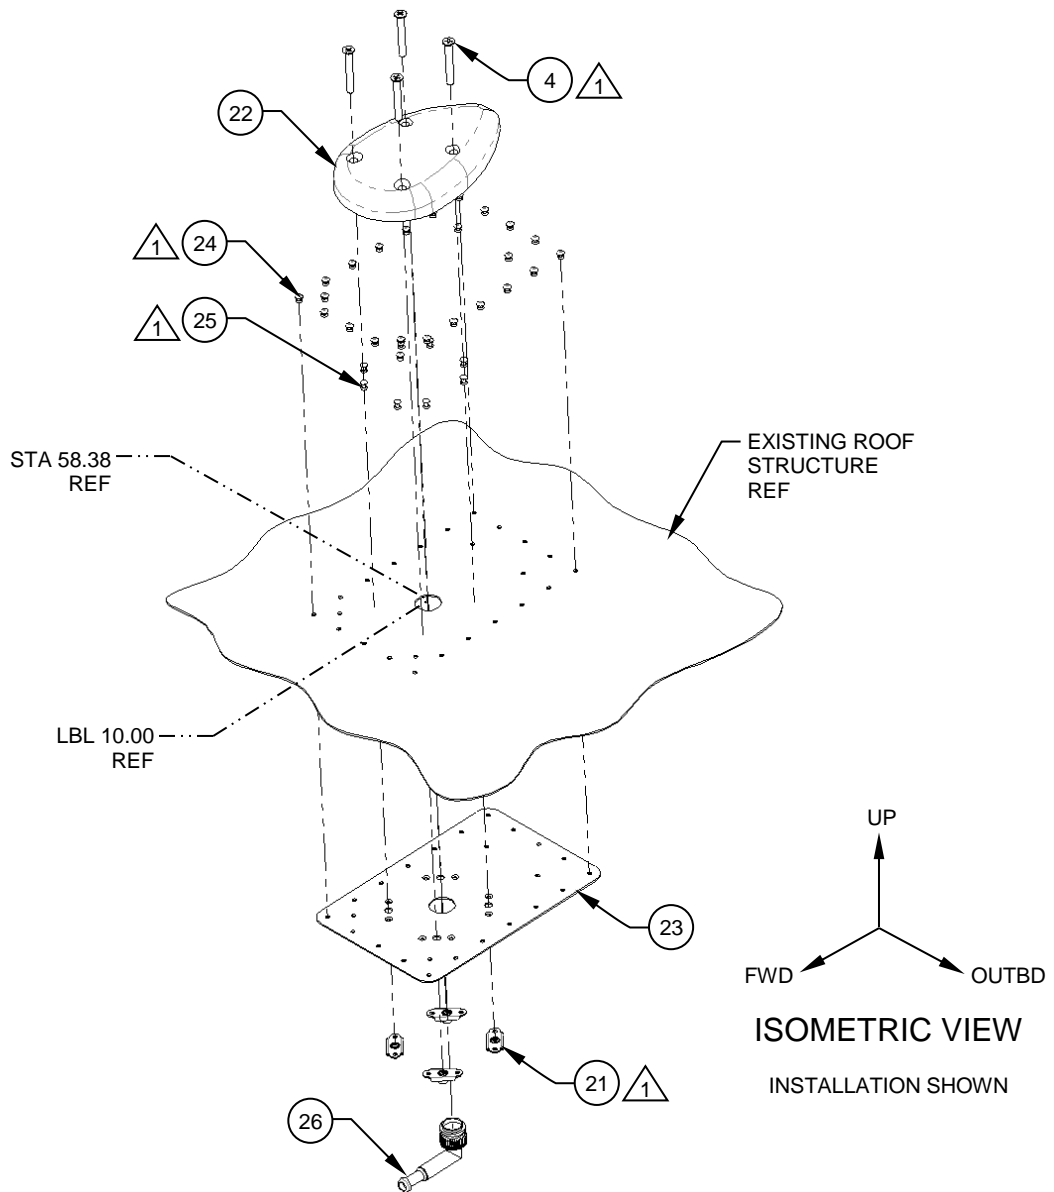

Figure 3
6. Install the Doubler, Detail (Item 23) as shown in preparation for mounting the GPS Antenna (Item 22). Reference Figure 3. When installing the Doubler, Detail (Item 23), ensure that provisions are made to electrically bond/ground the antenna as per the requirements of BHT-ELEC-SPM, chapter 8.
7. Install the GPS Antenna (Item 22) with the provided fasteners. Ensure that the GPS Antenna is electrically bonded/grounded per the requirements of BHT-ELEC-SPM, chapter 8. Reference Figure 3. Apply a fillet of Sealant, Corrosion Inhibitive (Item C01) around the base of the GPS Antenna. If required after installation, coat the area surrounding the GPS antenna (Item 22) with high solids epoxy primer per MIL-PRF-2377, Type 1, Class C2 and polyurethane paint in the appropriate color. Do not coat the GPS antenna.
15. Install the Coax Cable, Assy (Item 13) by fastening the SMA connector to the to the “IN” port of the Splitter (Item 9). Drill $\varnothing.437$ ” holes through frames 205-030-617-099/205-030-617-041 and 205-030-617-029 as applicable. Coat the inside of each hole with primer per MIL-PRF-23377, Type 1, Class C2 and install Grommet, Rubber (Item 33) in each hole once primer has cured. Route the Coax Cable, Assy (Item 13) through the grommets and secure with Cable Tie Mounts (Item 32) and Tie Straps (Item 28). Position the cable tie mounts to avoid interference with 204-030-636-003 Handle, Assy. Reference Figures 3, 5 & 10 and Appendix B. Cut the un-terminated end of the cable to length and terminate the end with the provided TNC Connector (Item 26) at the GPS, Antenna (Item 22) Reference Figure 3. Connect the newly terminated end to the GPS, Antenna (Item 22).